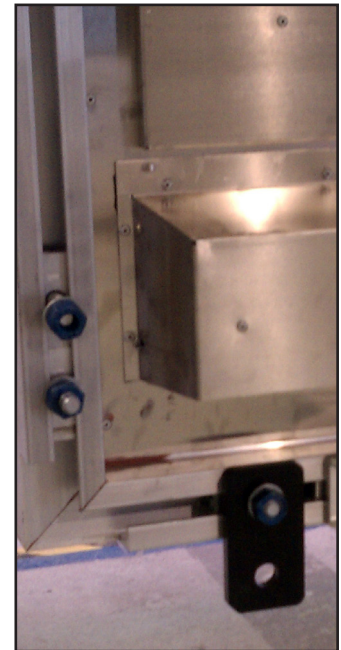

Figure 3: Tag Line Bracket
5. Attach tag lines to the bracket shown in **Figure 3**.